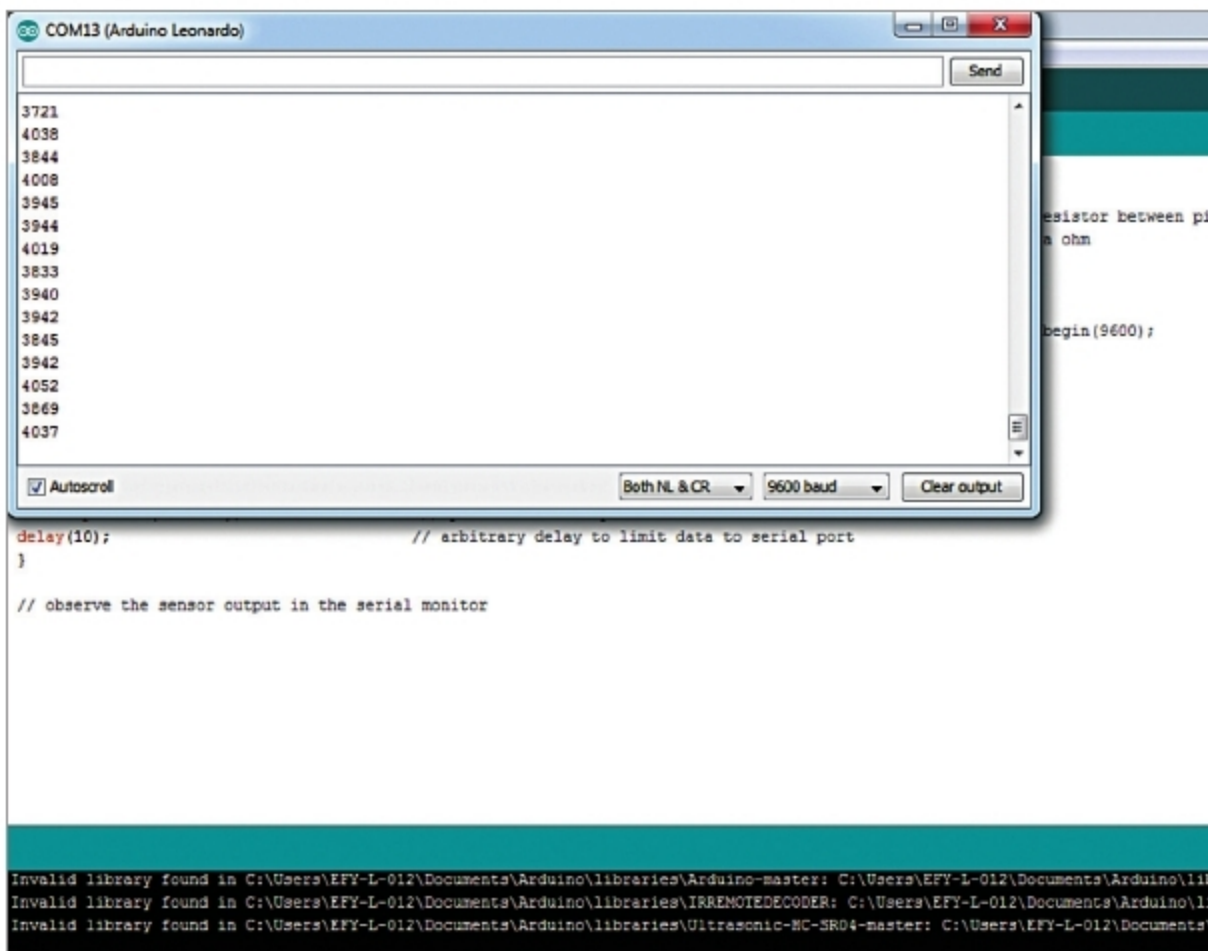

Fig. 4: Sensor values after touching sensor
Sensor values after touching the sensor are shown in Fig. 4. You can change the sensor values by changing the resistor value and use suitable sensor values in the main codes (copy_operation.ino and space_bar.ino)
2. Open the serial monitor and observe the values with and without touching the sensor. When you touch the sensor, the value comes in between 3700 and 4052 as shown in Fig. 4. For example, let us take a value of 3800.